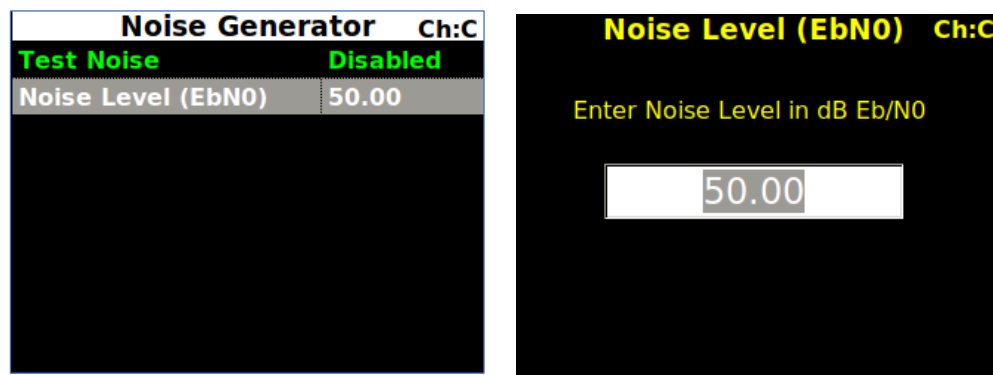

Figure 124: Noise Generator, Noise Level Selection
- Noise Level -Sets the noise level to use in the test in dB E_b/N_0 , as shown in Figure 124